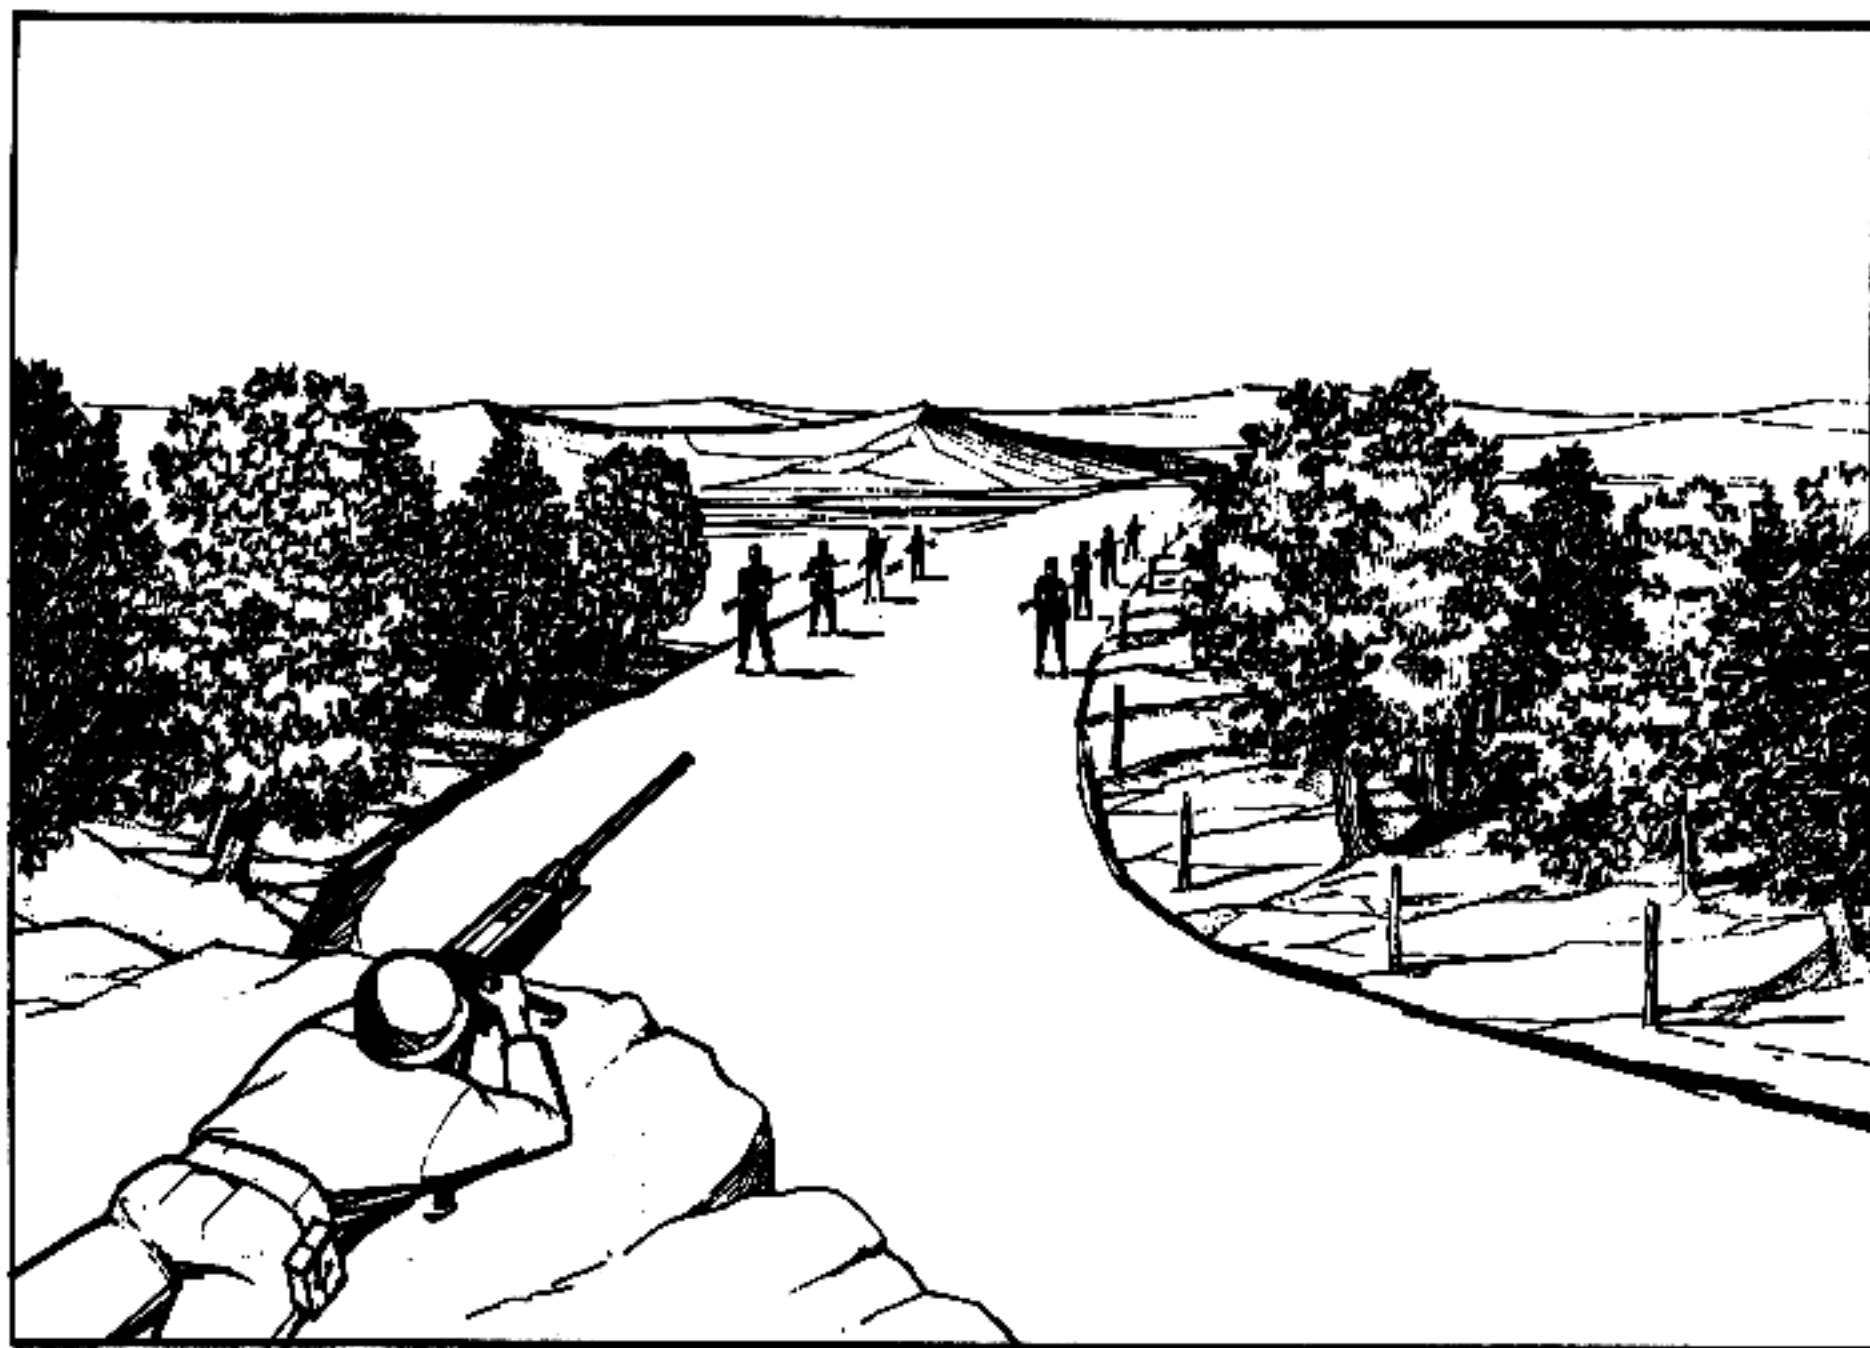

Figure 187. Deep target.
d. *Deep targets* have depth but very little width and can be effectively covered by searching fire (fig 187).